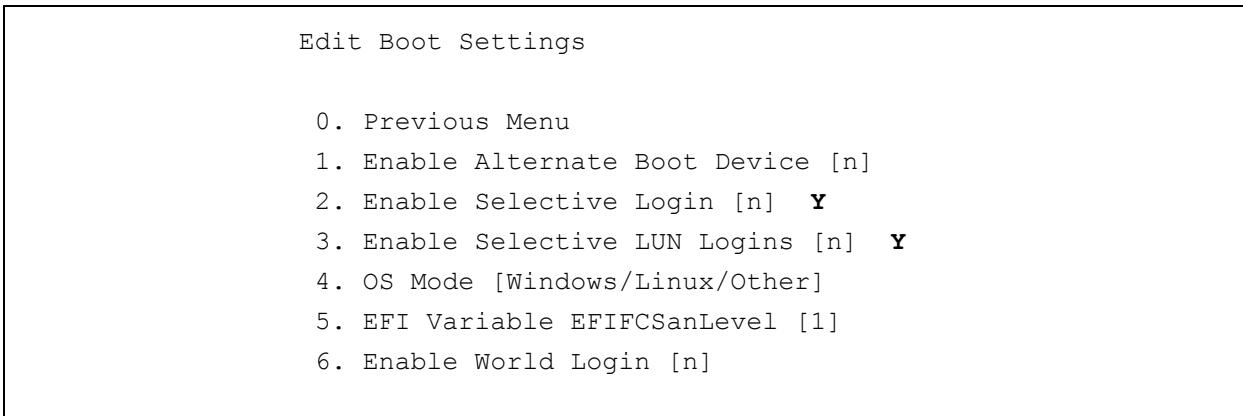

Figure 8-16. Edit Boot Settings Menu
- n. Enable both **Selective Login** and **Selective LUN Logins** (Figure 8-16). Enabling **Selective Logins** restricts the discovery of targets to what is specified in the database as a boot device. Enabling **Selective LUN Logins** restricts the discovery of LUNs to what is specified in the database as a boot device LUN number.